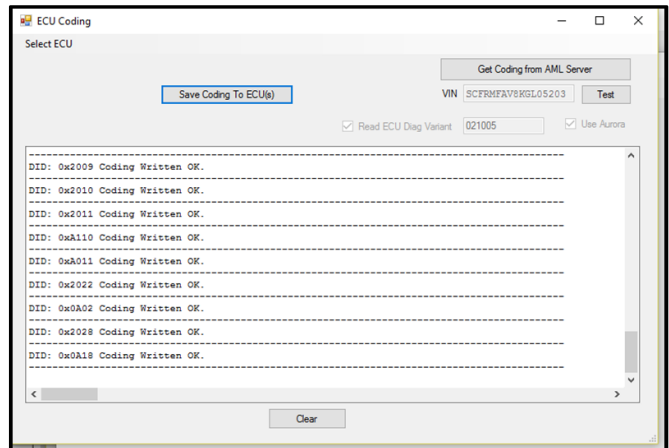

Figure 8
13. Coding will start writing process (refer to Figure 8).